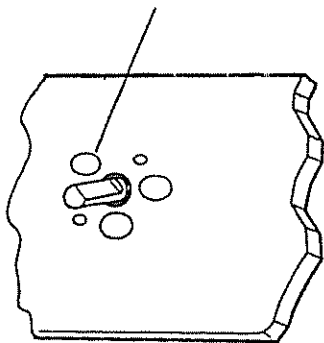

FIG. 5
The by-pass jet on each valve (see Fig. 5) must be adjusted as follows:
- 2) **LOCATE HOLE** on control panel which is aligned to by-pass screw. (see Fig. 5)